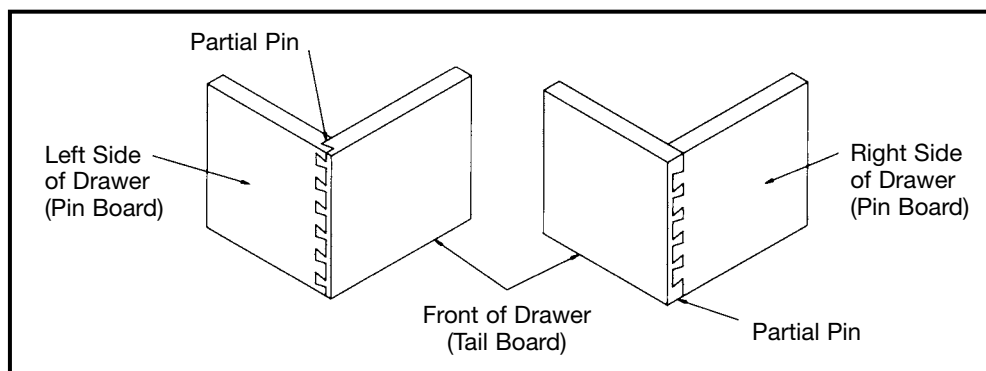

Fig. 11
9. Fig. 11 shows both the left and right corner of a drawer fitted together after they were both routed from the left end of the templet. Note the location of partial pins on drawer sides.